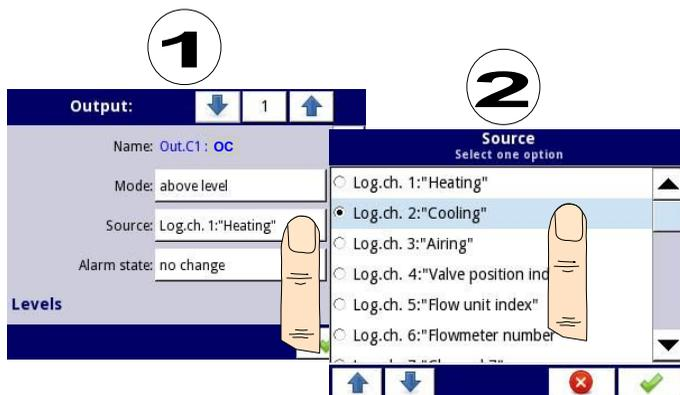

Fig. 7.77. Data source settings for built-in output (for OC hardware configuration)
- **Source** – this parameter contains a list of logical channels (up to 60), where the selected logical channel will be a data source for this built-in output (see **Fig. 7.77**).
- **Source** - this parameter contains a list of logical channels (up to 60), where the selected logical channel will be a data source for this built-in output (see **Fig. 7.77**).
- **Source** – this parameter contains a **Logical channels** list, where the selected logical channel will be a data source for this built-in output (see **Fig. 7.77**),